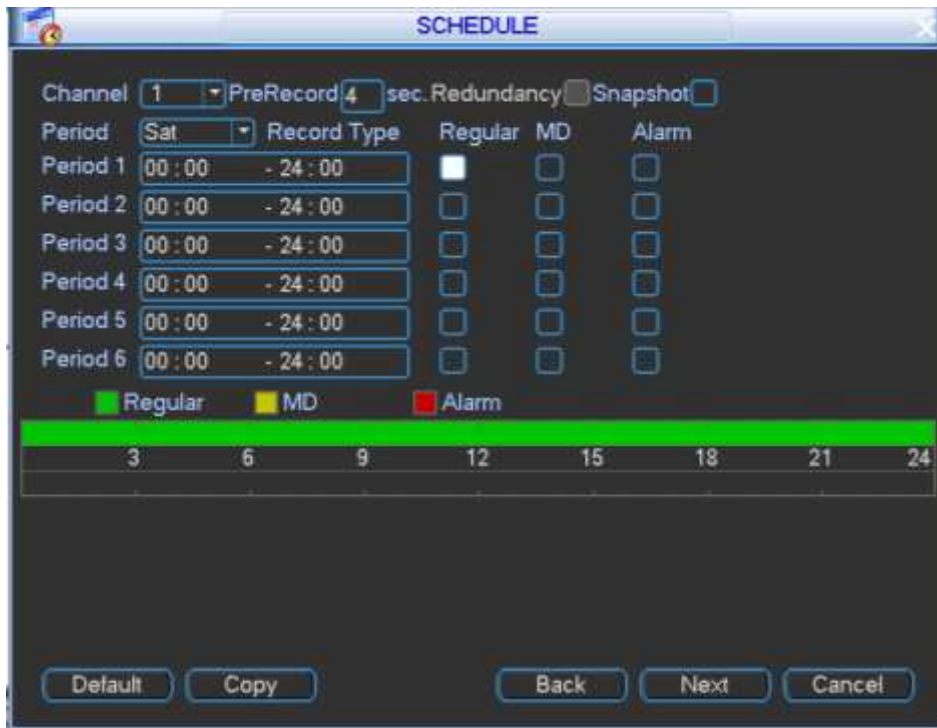

Figure 4-6
- Step 5 Click Next button, enter Schedule interface. See Figure 4-6.